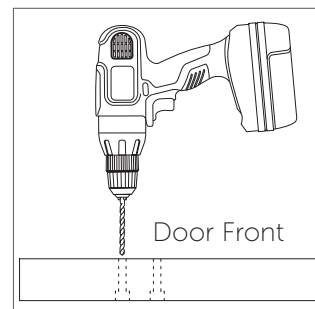

Figure 5
6. Turn the door over, returning it to the face-up position. Drill all the way through the pilot holes using a drill with a 1/4" drill bit (Figure 5).